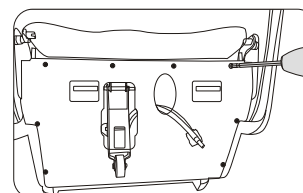

Figure 5
- Unscrew the 8 screws of front dam-board (NEED NOT unscrew the 4 screws on the bottom). (figure 5)